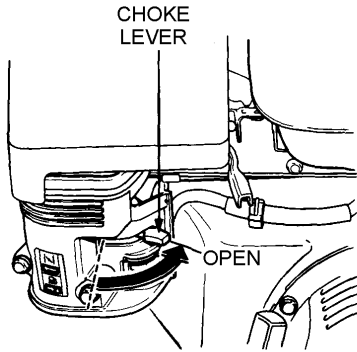

Figure 14. Choke Lever (Open)
7. If the engine has started and the choke lever was moved to the **CLOSED** position to start the engine, gradually move the choke lever to the **OPEN** position (Figure 14) as the engine warms up. If the engine has not started repeat steps 1 through 6.
1. Move the throttle lever to the **IDLE** position (See Figure 14) and run the engine for three minutes at low speed.